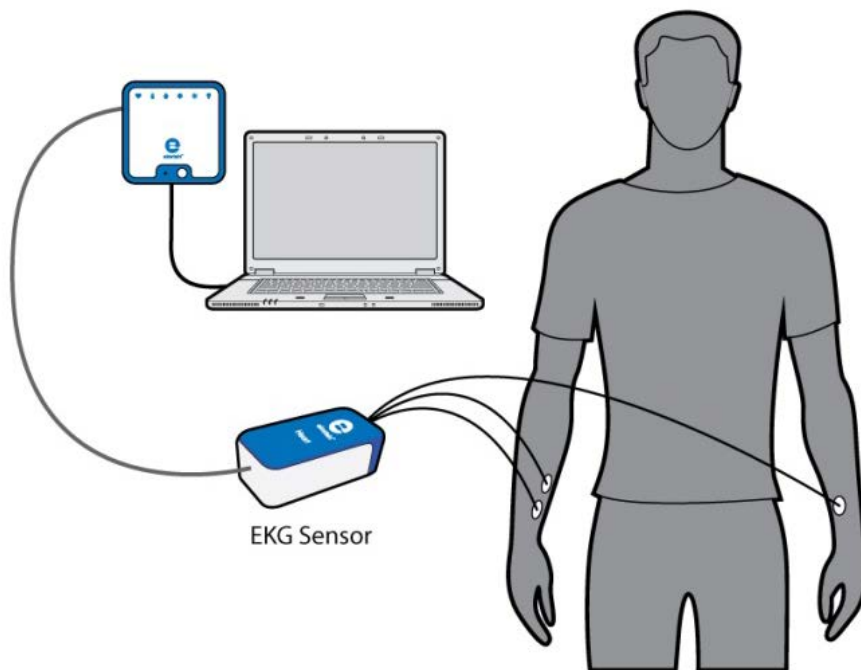

Figure 2
5. Firmly place the first electrode on the right wrist (see Figure 2).